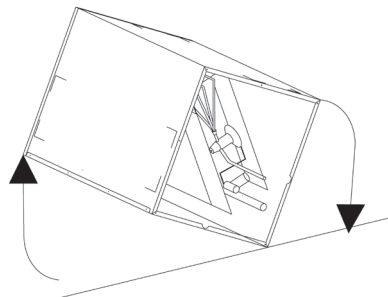

Fig. 06
- 3) Rotate entire unit 90 deg. clockwise. (Fig. 06)